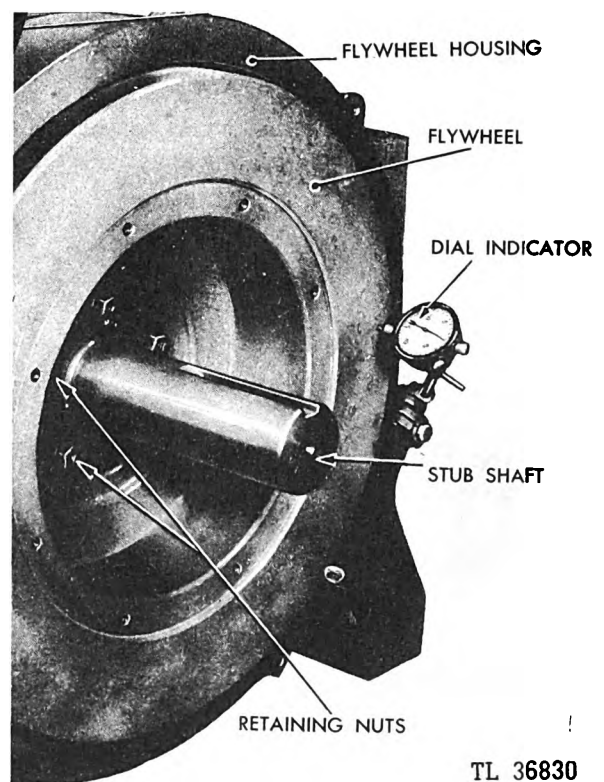
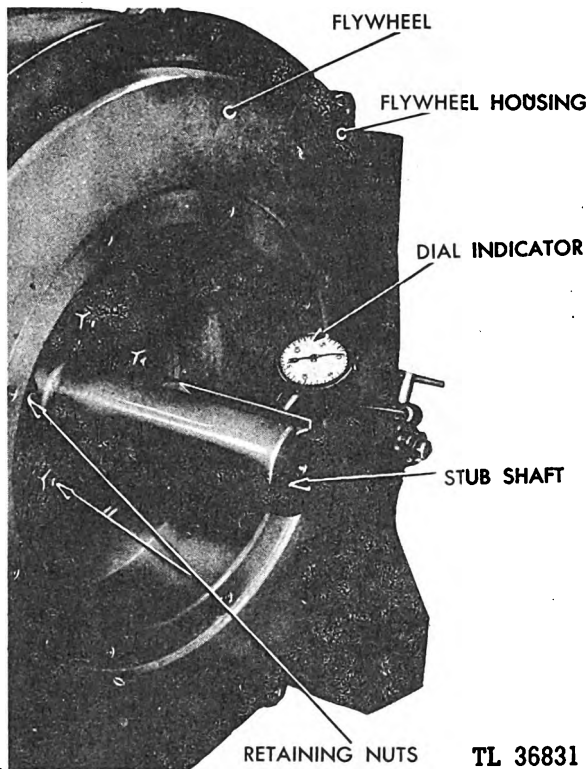

Fig. 178. Checking Flywheel Runout
Fig. 179. Checking Stub Shaft Runout
(3) Check flywheel runout with a dial indicator as shown in Figure 178. The maximum total indicator reading should not exceed .008 inch. Check the stub shaft runout with a dial indicator as shown in Figure 179. The reading should not exceed .003 inch. Be sure the shaft